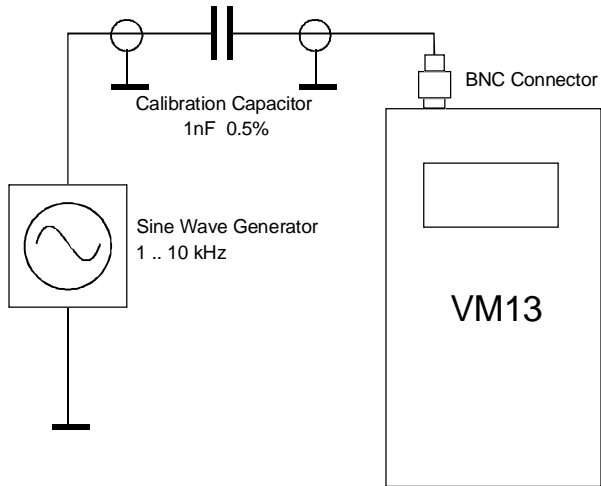

Figure 5: Calibration of the acceleration range
**Vibration Acceleration** The acceleration calibration of the VM13 is more complex. We recommend a method using an input voltage instead of mechanical vibration. This approach does not require a costly high frequency vibration exciter and can be carried out with regular laboratory equipment. All you need is a shielded calibration capacitor (recommended 1 nF, 0.5 %) and a sine wave generator. The calibration capacitor replaces the internal piezo-capacitor of the accelerometer. By connecting the capacitor between generator and VM13 input an accelerometer signal can be simulated. Figure 5 shows the circuit. Note that the ground terminals of the generator and the VM13 need to be connected.